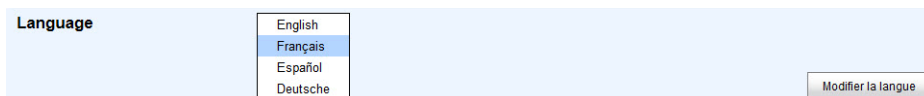

FIG. 11 Language section and Change Language button
1. From the *Language* section, click on the language you wish to use. This enables the **Change Language** button (FIG. 11).